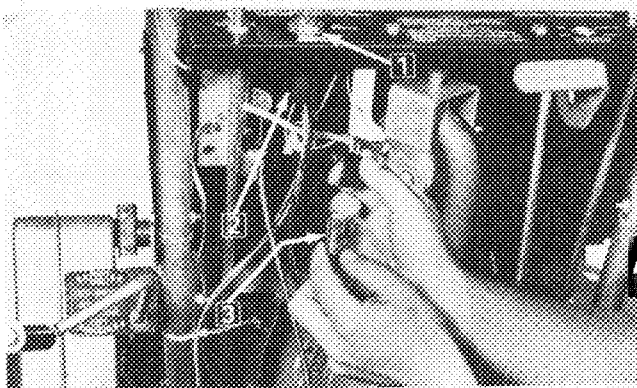

Figure 10
21. Connect plug from wiring harness to ignition switch (Fig. 10).
22. Connect smaller plug on harness to existing plug on control panel (Fig. 10).